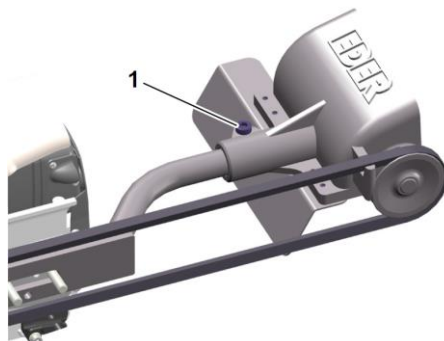

Fig. 5: Fastening the peeling head to the support
- > Make sure that the belt is already slightly pretensioned. If not, loosen the Allen screw (1) (see Fig. 5) and push the peeling head forward on the support until the belt is pretensioned.